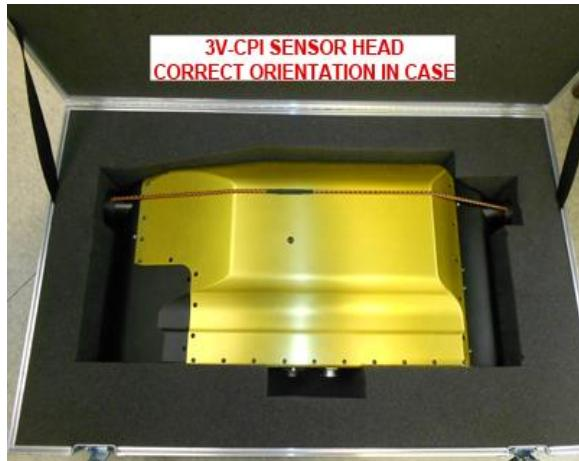

Figure 2.6.2.
2. Place the 3V-CPI sensor head in the shipping container. Be sure the sensor head is in the same orientation as **Figure 2.6.2**. Close and latch the shipping case.